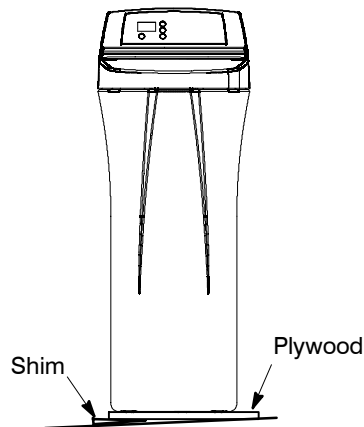

Figure 7 (if needed for leveling)
1. Move the water softener into desired location. Set it on a level surface. If needed, place the water softener on a section of plywood, a minimum of 3/4" thick. Then, shim under the plywood to level the water softener, see Figure 7.